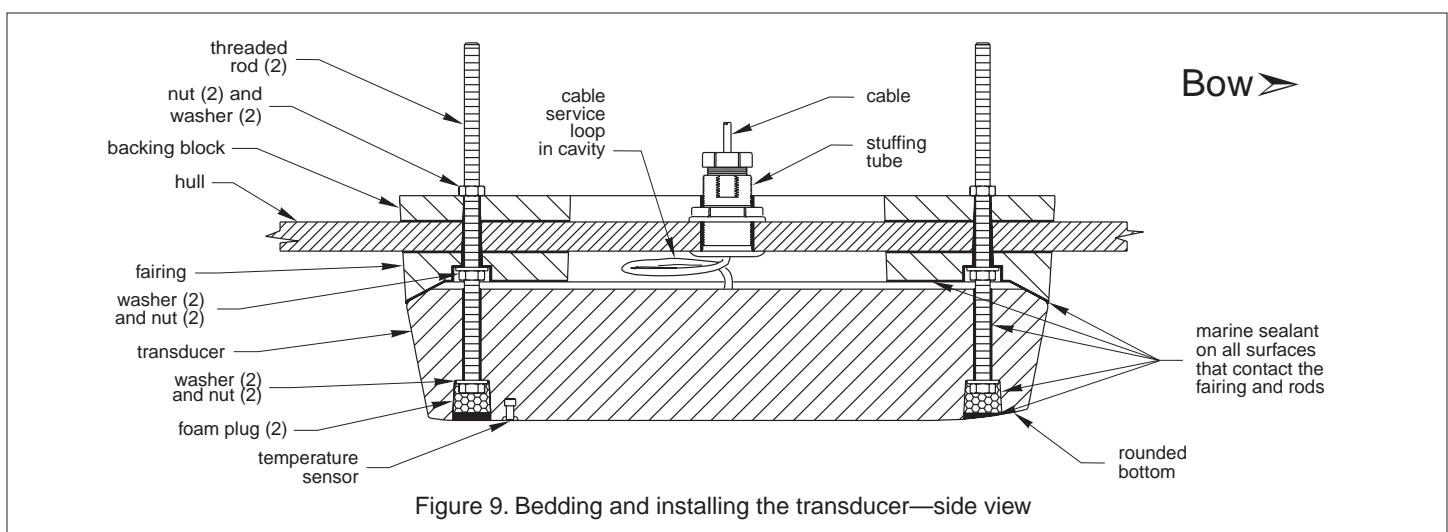

Figure 9. Bedding and installing the transducer—side view
1. Apply a 2mm (1/16") thick layer of marine sealant to the surface of the transducer that will contact the fairing. Apply a 2mm (1/16") thick layer of marine sealant in the recess for the washer and nut. *Be sure* there is sealant on the threaded rods (see Figure 9).
2. Thread the transducer cable through the stuffing tube. Allow a service loop of 25cm (10") of cable within the cavity of the fairing (see Figures 9 and 10).
- Slide the transducer onto the threaded rods *being sure* the rounded bottom is facing forward toward the bow and the temperature sensor is aft. Seat the transducer firmly within the recess in the fairing. Secure the transducer in place by applying a washer and a nut to each threaded rod (see Figure 9). Tighten both nuts with a torque wrench using a force not exceeding 12N-m (10ft.-lb.). *Be sure the rods extend a minimum of 3 threads beyond the nut after being tightened.*